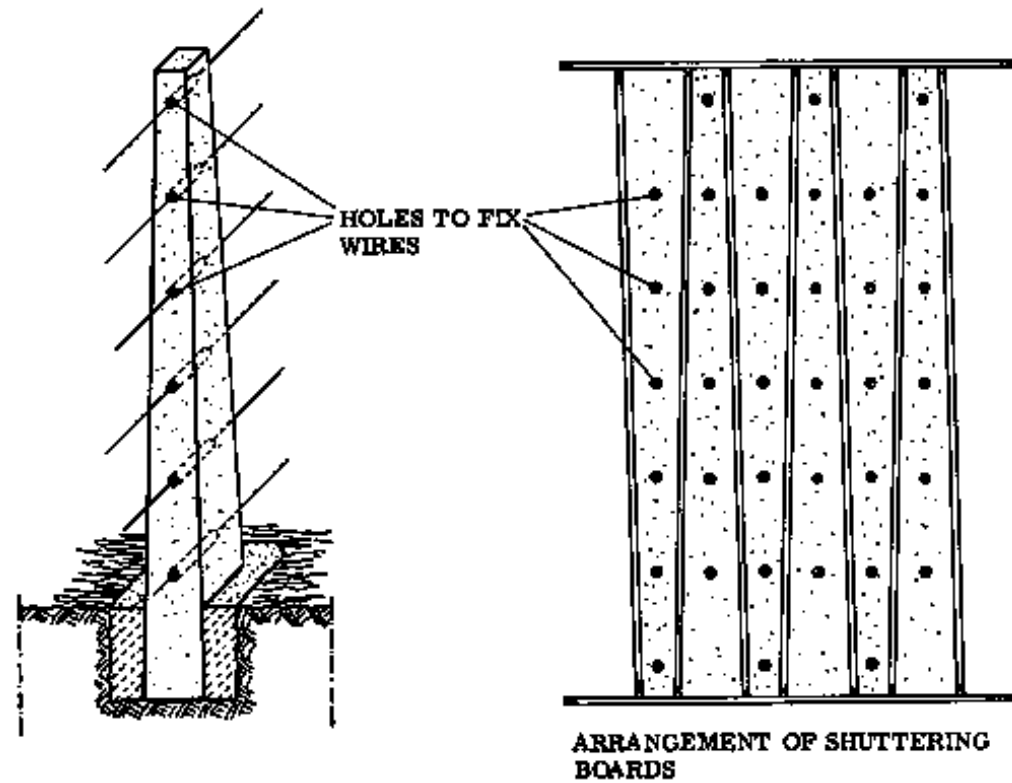

Fig 1
- **REINFORCED CONCRETE POSTS:** For fencing purposes (Fig. 1).